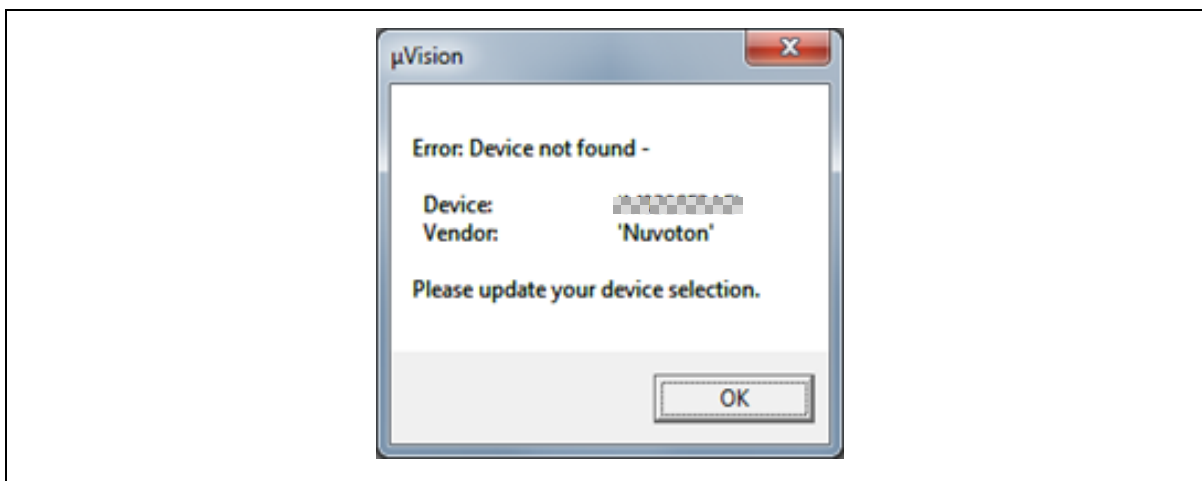
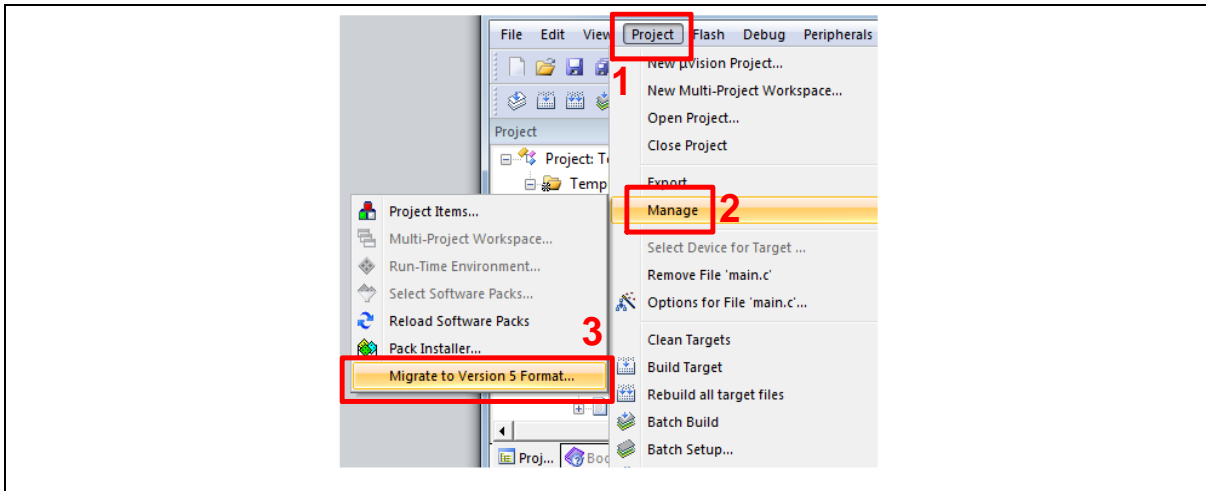

Figure 5-8 Warning Message of “Device not found”
Figure 5-9 Project File Migrate to Version 5 Format
**Note:** If Figure 5-8 warning message jumps out, please migrate to version 5 format as shown in Figure 5-9. The “.uvproj” filename extension will change to “.uvprojx”.